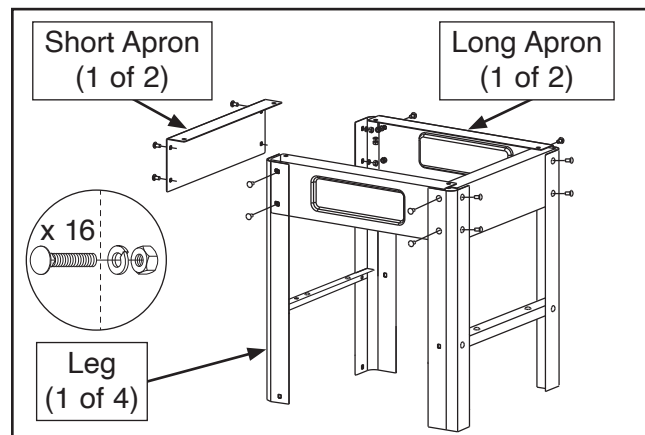

Figure 4. Assembling legs and aprons.
2. Attach (1) short apron (see **Figure 4**) to each of the (2) leg assemblies created in **Step 1** using (8) M8-1.25 x 20 carriage bolts, (8) 8mm lock washers, and (8) M8-1.25 hex nuts.
3. Attach (2) long aprons (see **Figure 4**) to assembled (2) short aprons and leg assemblies with (8) M8-1.25 x 20 carriage bolts, (8) 8mm lock washers, and (8) M8-1.25 hex nuts.